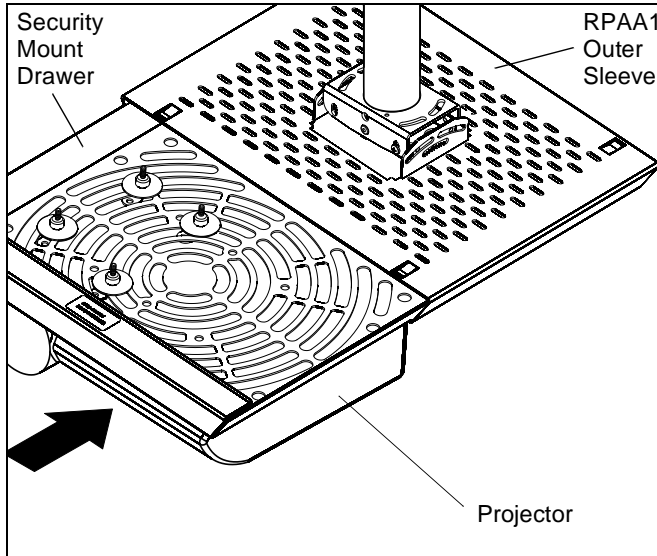

Figure 9
3. Slide the security mount drawer into the RPAA1 outer sleeve. (See Figure 9)